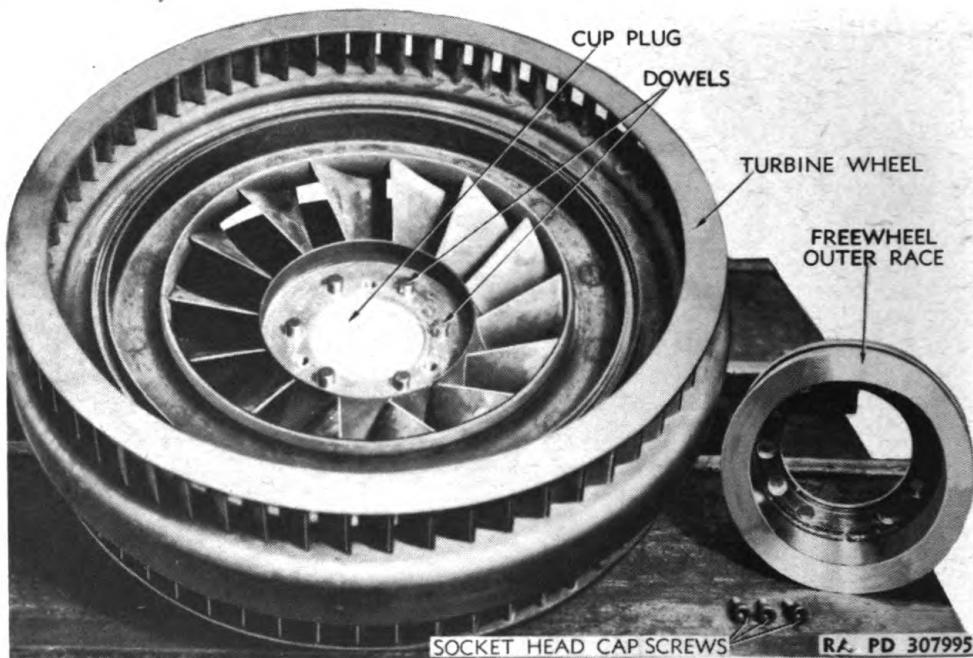
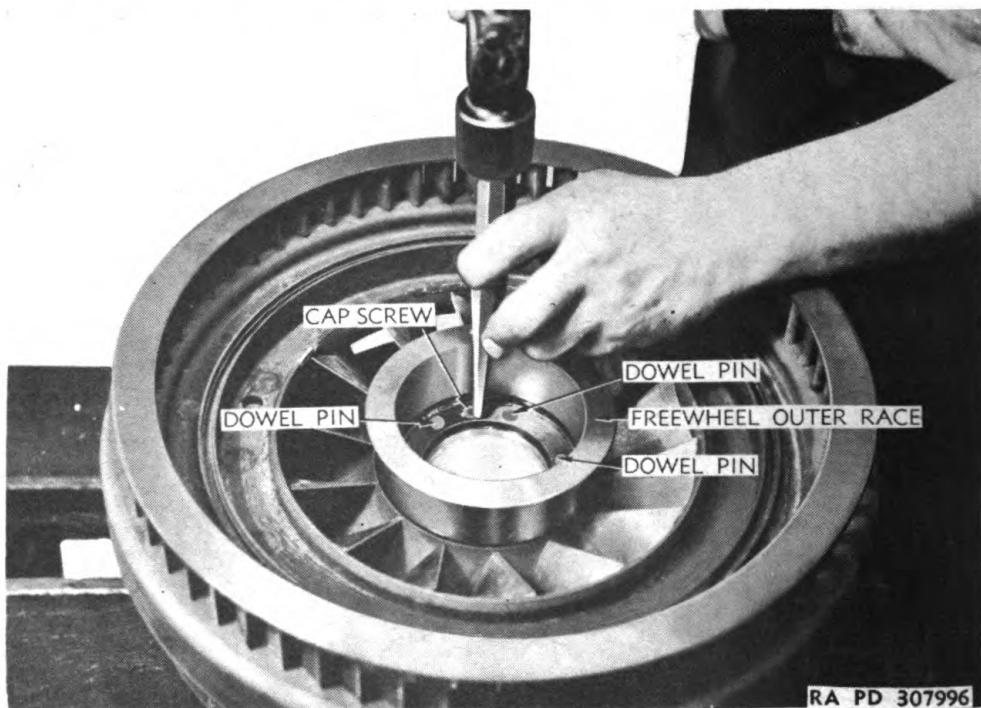

Figure 187 — Cup Plug and Dowels Installed in Turbine Wheel
Figure 188 — Locking Free-wheel Outer Race Retaining Screws
g. Install Free-wheel Outer Race on Turbine Hub. Place turbine wheel on bench as shown in figure 186. Coat the edges of the turbine wheel cup plug with white lead and press plug into position shown in illustration. Wipe off excess white lead. Insert the six dowels in turbine hub to receive free-wheel outer race (fig. 187). Place race on the six pins as shown in figure 188 and secure it with the three knurled socket head cap screws. The race will fit in only one position, the holes having been spaced unequally to assure assembly in proper relationship. When cap screws have been completely tightened, use a punch to distort the metal adjacent to the screw heads, thus locking the screws.